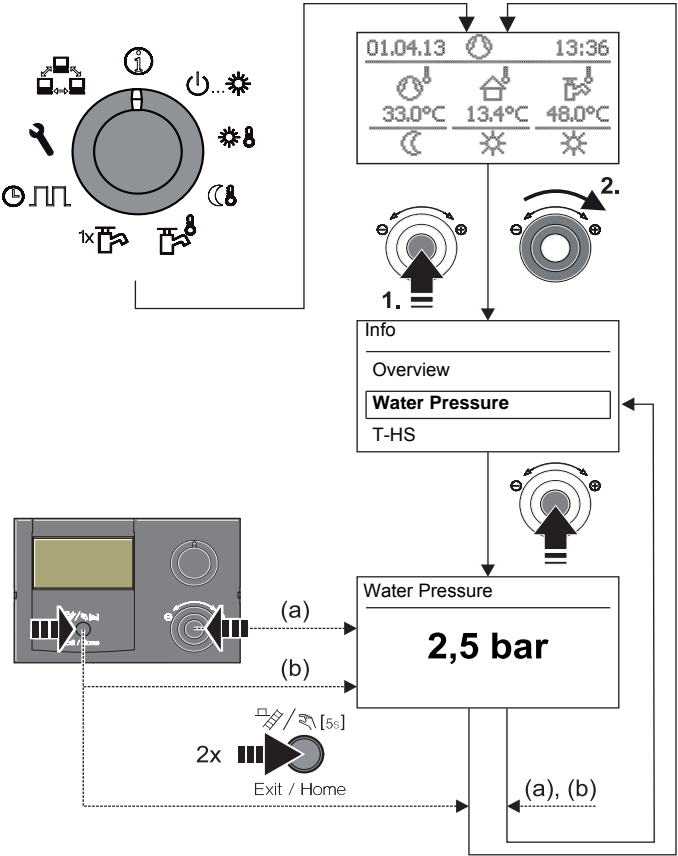

Fig. 3-6 Info values display (e.g. system pressure)
- ➔ The value is displayed (for example, see fig. 3-6).
On the Control RoCon HP, when it is switched on, you can display the system pressure (water pressure) in the internal circuit (direct heating circuit). The water pressure is available as the first info parameter (see fig. 3-6).